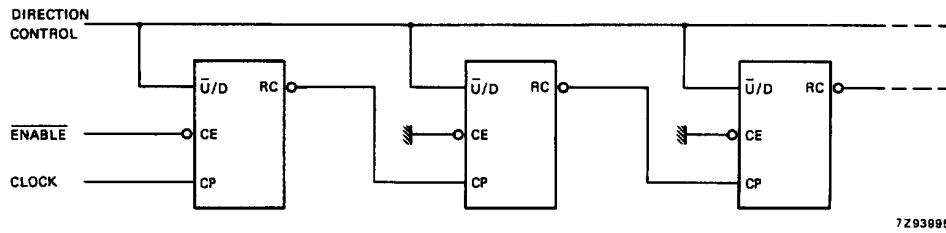
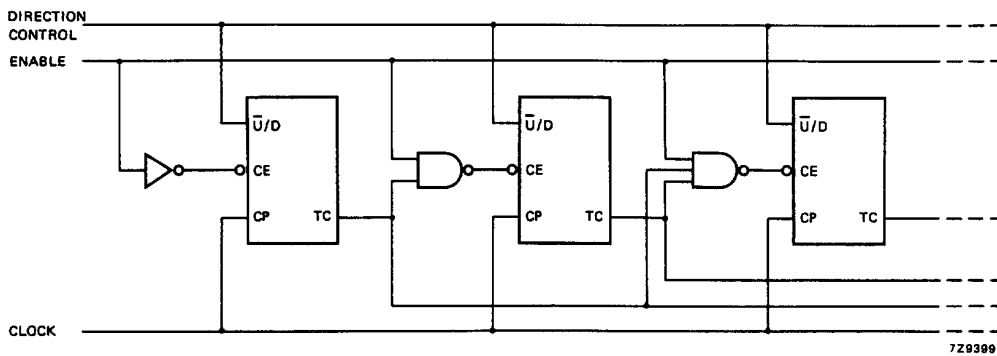

Fig.5 N-stage ripple counter using ripple clock.
Fig.7 Synchronous n-stage counter with parallel gated carry/borrow.
Overflow/underflow indications are provided by two types of outputs, the terminal count (TC) and ripple clock (\overline{RC}). The TC output is normally LOW and goes HIGH when a circuit reaches zero in the count-down mode or reaches "9" in the count-up-mode. The TC output will remain HIGH until a state change occurs, either by counting or presetting, or until $\overline{U/D}$ is changed. Do not use the TC output as a clock signal because it is subject to decoding spikes. The TC signal is used internally to enable the \overline{RC} output. When TC is HIGH and \overline{CE} is LOW, the \overline{RC} output follows the clock pulse (CP). This feature simplifies the design of multistage counters as shown in Figs 5 and 6.
In Fig.5, each \overline{RC} output is used as the clock input to the next higher stage. It is only necessary to inhibit the first stage to prevent counting in all stages, since a HIGH on \overline{CE} inhibits the \overline{RC} output pulse as indicated in the function table. The timing skew between state changes in the first and last stages is represented by the cumulative delay of the clock as it ripples through the preceding stages. This can be a disadvantage of this configuration in some applications.
In Fig.7, the configuration shown avoids ripple delays and their associated restrictions. Combining the TC signals from all the preceding stages forms the \overline{CE} input for a given stage. An enable must be included in each carry gate in order to inhibit counting. The TC output of a given stage is not affected by its own \overline{CE} signal therefore the simple inhibit scheme of Figs 5 and 6 does not apply.